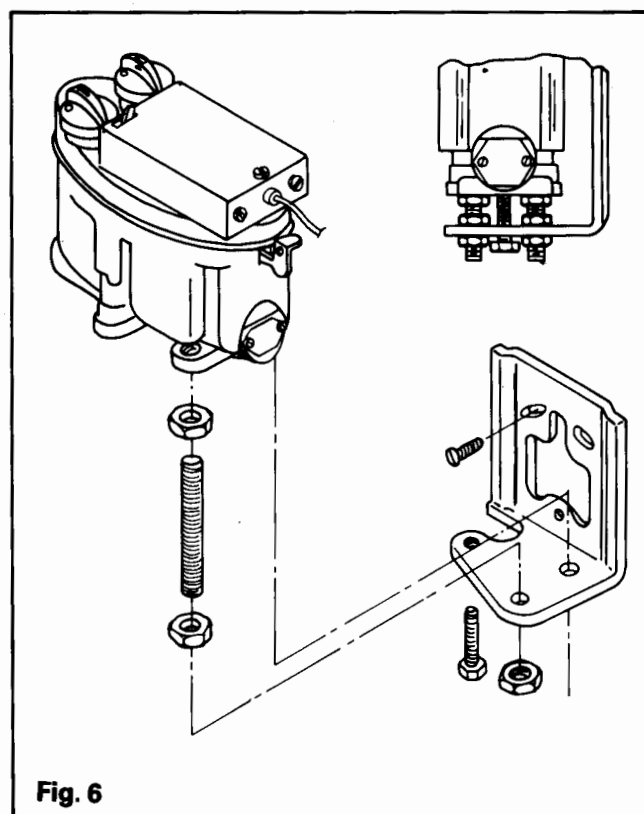

Fig. 6
2. Oil Control Valve/Bracket Assembly – See Fig. 6.
1. Fit and lightly secure oil control valve support bracket to cooker L.H. side panel. See Fig. 6.